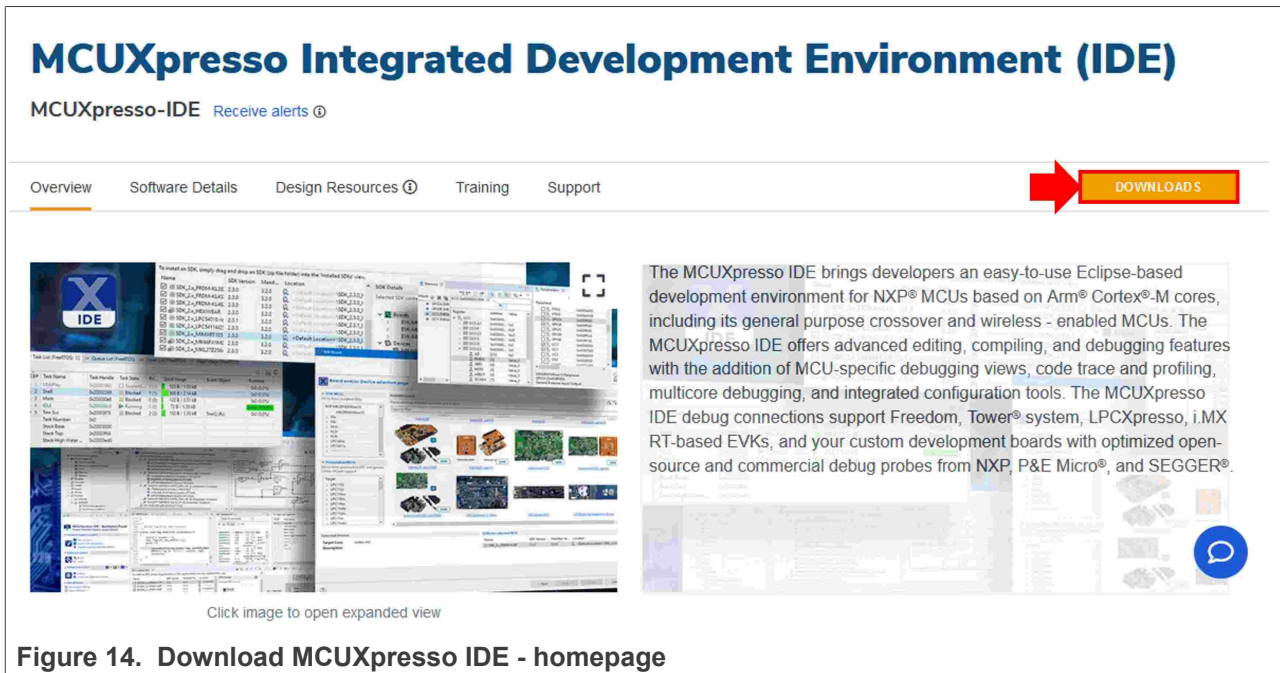

Figure 14. Download MCUXpresso IDE - homepage
1. Go to the MCUXpresso webpage and click the *downloads* button as shown in Figure 14: